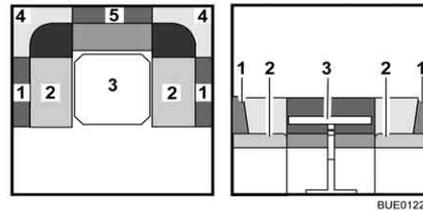

Fig. 98 Prior to conversion
- Convert the table (Fig. 98,3) to a bed foundation (see section 6.12).